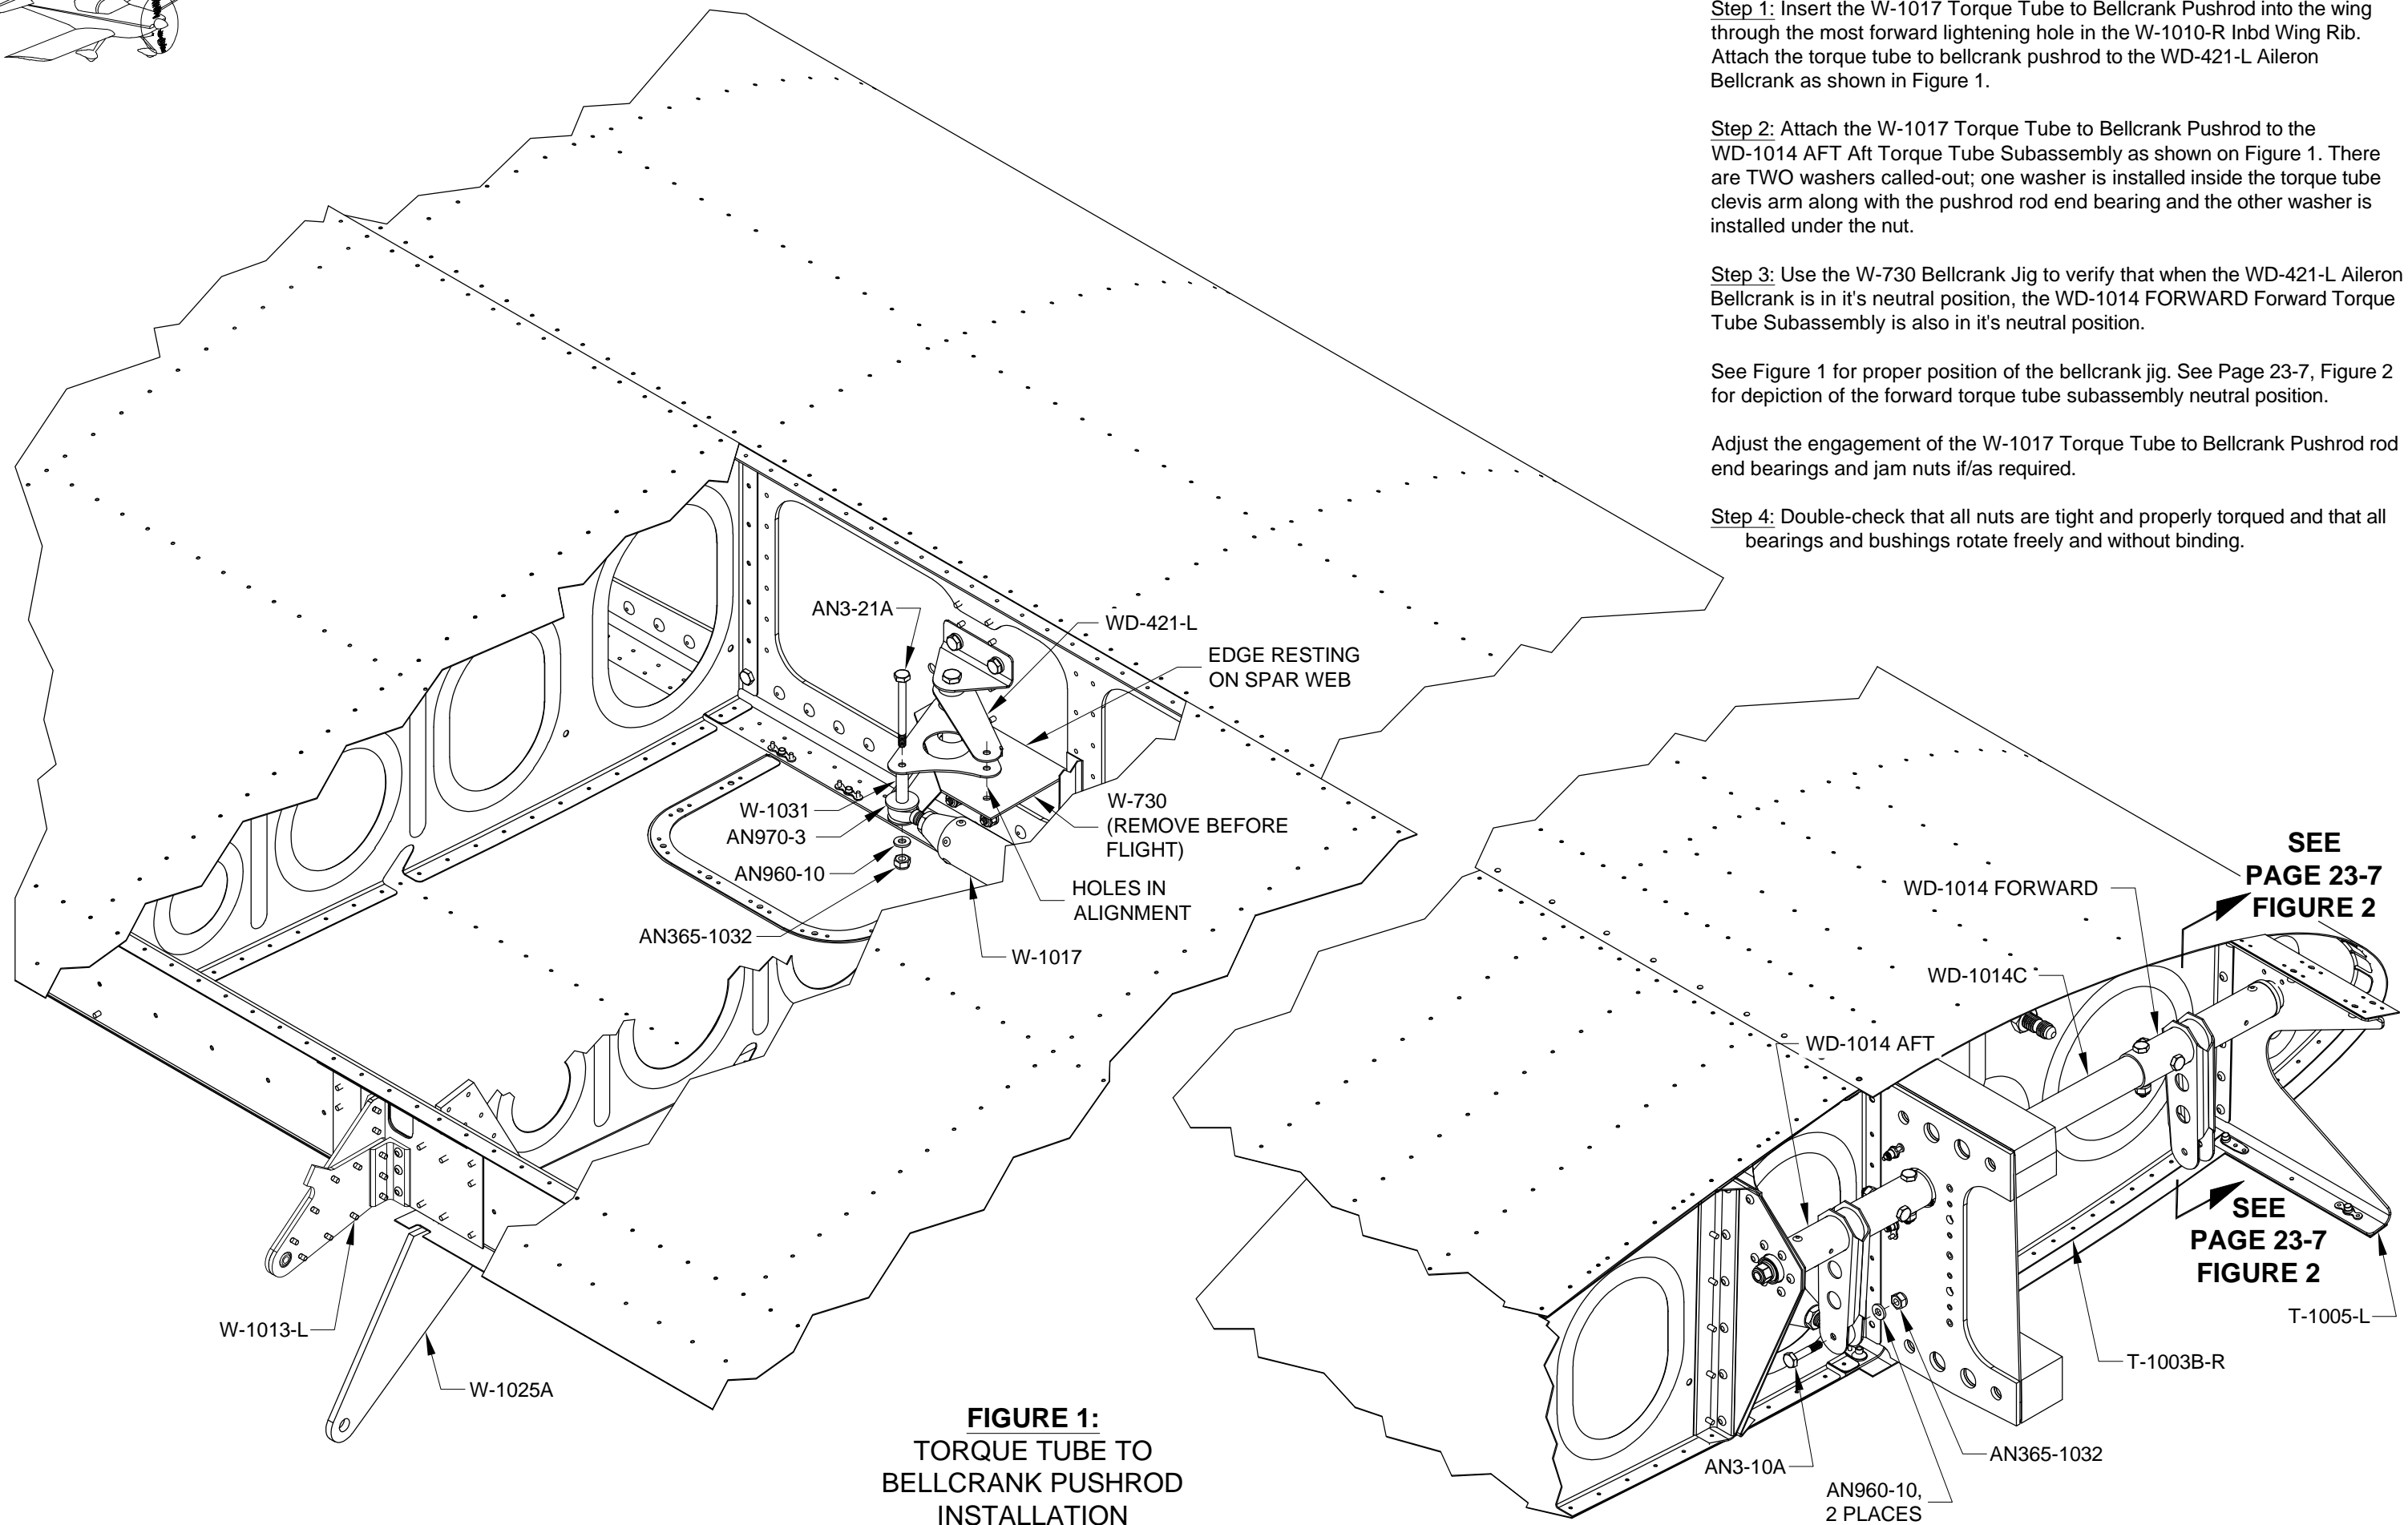

FIGURE 1:
Step 1: Insert the W-1017 Torque Tube to Bellcrank Pushrod into the wing through the most forward lightening hole in the W-1010-R Inbd Wing Rib. Attach the torque tube to bellcrank pushrod to the WD-421-L Aileron Bellcrank as shown in Figure 1.